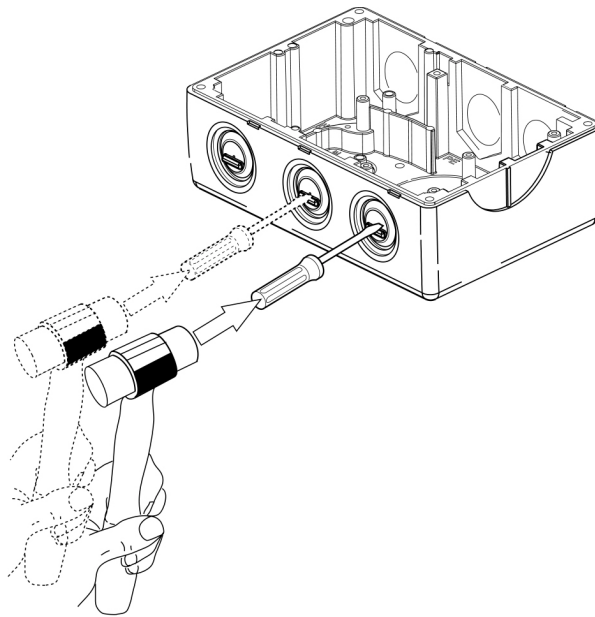

Figure 2-3 Gland Plate or “knockout” Removal
5. Using a hammer and a flat-head screwdriver (as shown in Figure 2-3) strike the gland plate or "knockout".